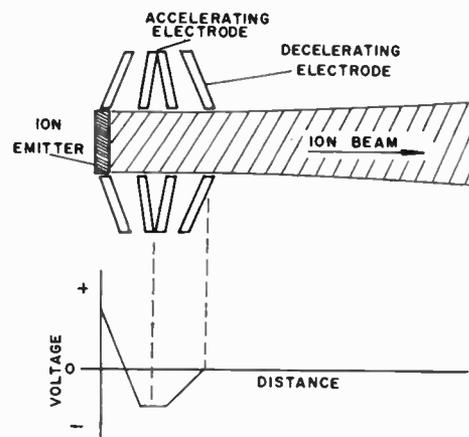

Figure 3b. The "accel-decel" ion-engine structure and diagram showing voltage distribution.
It can be shown that the propellant flow rate is limited by space charge effects in the ion diode. In fact this is a fundamental limitation of the ion propulsion system. One approach which has been proposed by Seitz and Raethers(5) to improve this situation is the use of an "Accel-decel" system as shown in Figure 3b. Here, an additional electrode is included such that a large voltage is applied between the emitter and the first electrode to increase the ion current from the